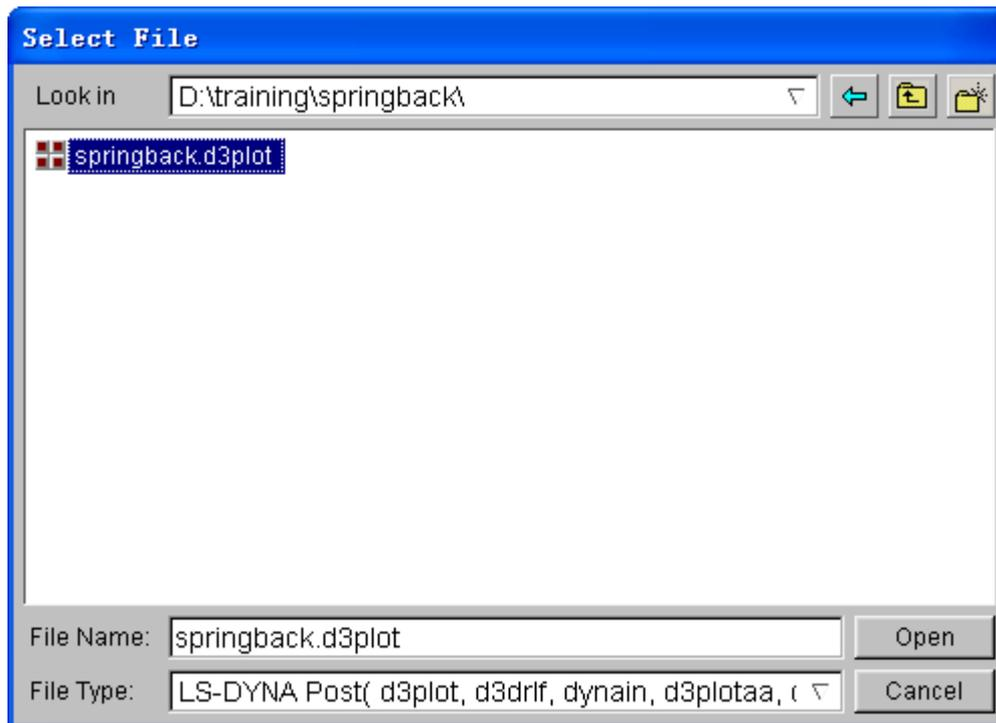

Figure 6.17 Select File dialog box
1. Select **File**→**Open** in the eta/POST menu bar. The SELECT FILE dialog box is illustrated in Figure 6.17.